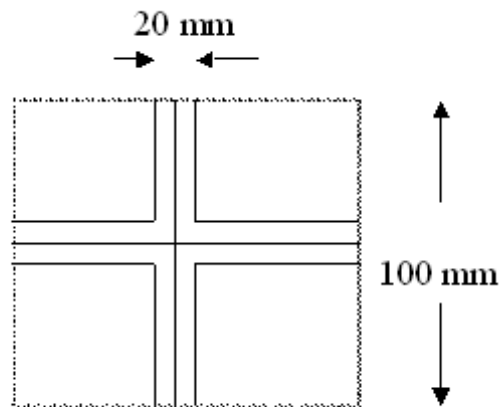

Figure 7
7. Find the buckling load for a steel column 5 m long, made up of four equal L sections placed each placed back to back as shown in (figure 7). Assume both ends are fixed. The critical stress is 32.5 KN/cm^2 . $k_1 = 1/7500$ [16]